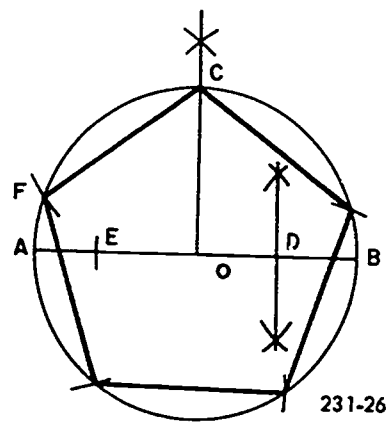
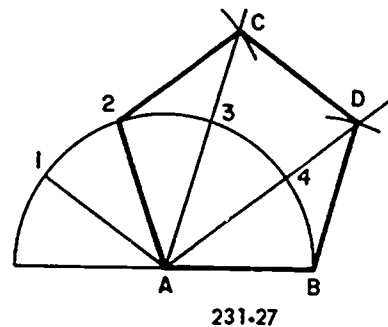

Figure 4-26. Constructing a regular pentagon inscribed within a given circle.
Figure 4-27. Constructing a regular pentagon with length of one side given.
**Constructing a Regular Pentagon Inscribed within a Given Circle.** The following procedure to construct this pentagon is illustrated in figure 4-26.
- (1) Draw any diameter, AB, of the circle.
- (2) Construct radius OC perpendicular to diameter AB.
- (3) Bisect OB to find point D.
- (4) Using point D as center and CD as radius, swing an arc cutting the diameter AB to find point E.
- (5) Using C as center and CE as radius, swing an arc cutting the circle at point F.
- (6) Draw chord CF. This chord is one side of the pentagon.
- (7) Using the same radius CE which is equal in length to chord CF, step off the remaining points around the circle and connect them with chords.
**Constructing a Regular Pentagon with Length of One Side Given.** The following procedure to construct a pentagon on given side AB is illustrated in figure 4-27.
**Exercises (037):**
2. Given one leg of a pentagon  $1\frac{1}{4}$  inches long, construct a regular pentagon using the method described in figure 4-27.